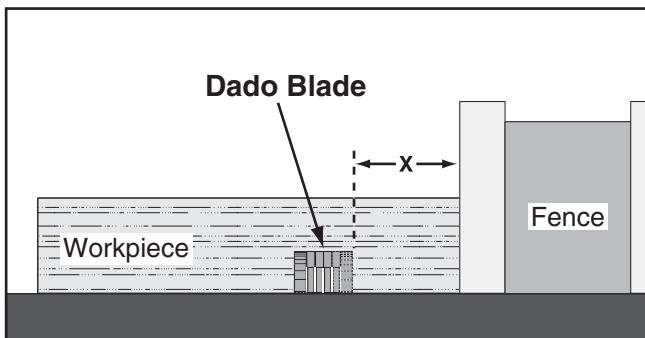

Figure 63. Example of a dado being cut with a dado blade.
2. Adjust the distance between the fence and the inside edge of the blade, as shown in **Figure 63 on Page 42**, to dado the length of a workpiece.